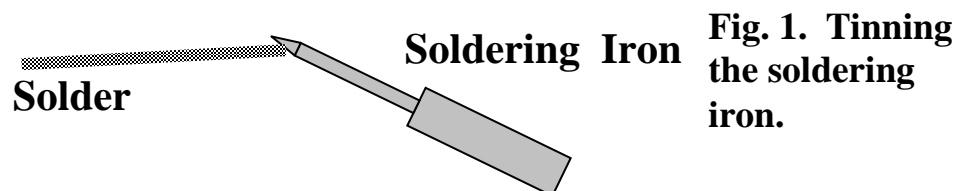

Fig. 1. Tinning the soldering iron.
4.1.5. When iron is hot (3-5 minutes), “tin” the tip as shown in Fig. 1.